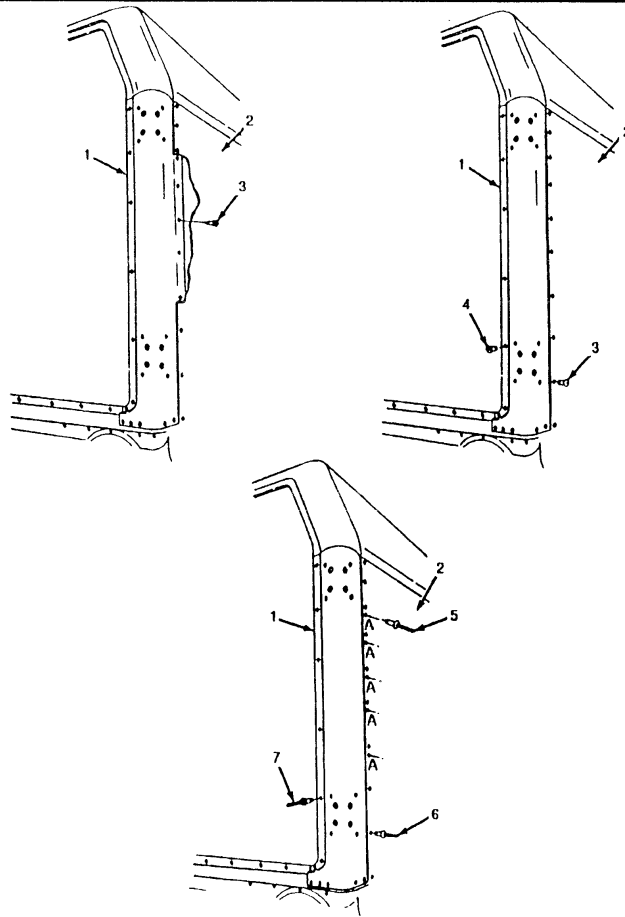
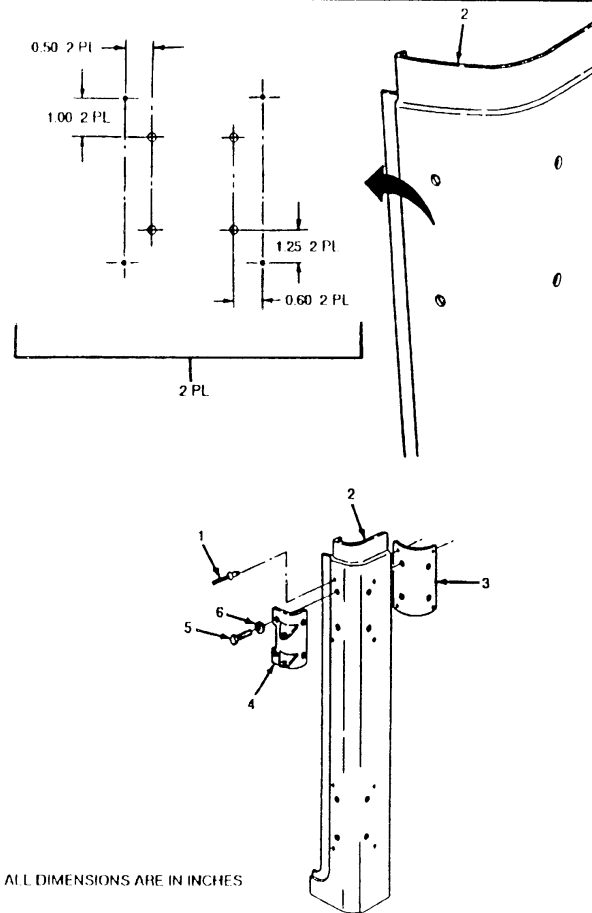

FIGURE 3-37
FIGURE 3-38
6. Using a 0.125-inch drill, remove seven rivets (4) that secure rear side corner body panel (1) to body panels (2). (see figure 3-37)
7. Using a 0.187-inch drill, remove ten rivets (3) that secure rear side corner body panel (1) to body panels (2).
8. Separate body panels (2) from rear side corner body panel (1). (see figure 3-37)
9. Transfer five rivet head (3) locations marked "A" onto exterior side of body panels (2); center punch locations marked "A".
10. Drill five 0.125-inch diameter pilot holes through body panel (2) marked in step 9.
11. Using a 0.187-inch diameter drill, remove five rivets (3) marked in steps 9 and 10.
12. Remove rear side corner body panel (1).
13. Remove adhesive residue and clean body panels (2). Do not remove scribed lines marked in steps 5 and 9.
14. Using P/N 12341568-2 rear side corner body panel (2) locate, mark, and drill eight 0.187-inch diameter holes in rear side corner body panel (2). (see figure 3-38)
16. Position two P/N 12341071 reinforcement assemblies (3) in rear side corner body panel (2) and secure with existing two rear hinge assemblies (4), eight washers (6), and screws (5). (see figure 3-38)
17. Using holes drilled in step 14 on rear side corner body panel (2) as templates, drill eight 0.187-inch diameter holes through two reinforcement assemblies (3). (see figure 3-38)
18. Secure rear side corner body panel (2) and two reinforcement assemblies (3) together with eight NSN 5320-01-271-6357 rivets (1).
19. Remove eight screws (5), washers (6), and two rear hinge assemblies (4) installed in step 16.
20. Position rear side corner body panel (1) to body panels (2) and transfer scribed lines marked in steps 5 and 9. (see figure 3-37) Remove rear side body panel (1).
21. Using scribed lines marked in step 20, drill seven 0.125-inch diameter holes in rear side corner body panel (1).
22. Using scribed lines marked in step 20, drill twenty-two 0.187-inch diameter holes in rear side corner body panel (1).
24. Install rear side corner body panel (1) to body panels (2) and secure with seven NSN 5320-01-136-3562 rivets (7), five NSN 5320-01-264-5978 rivets (5), and seventeen NSN 5320-01-271-6357 rivets (6). (see figure 3-37)
26. Spot paint rear side corner body panel (1) and body panels (2). (Refer to TM 43-0139.)
27. Apply P/N (71961) 6099 wicking sealant to thirty rivet heads (1), (5), and (6) installed in steps 18 and 24. (see figures 3-37 and 3-38)